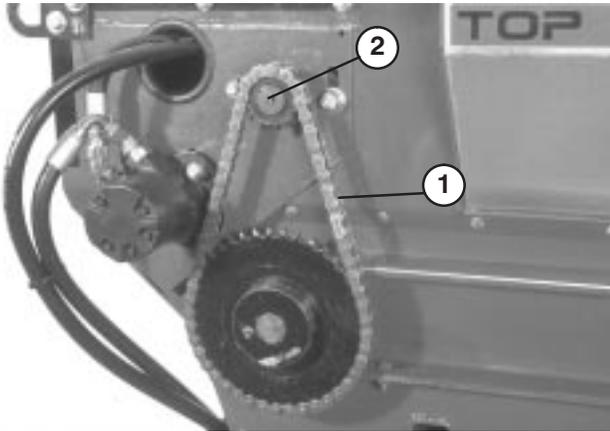

Figure 17
2. Loosen bolts and nuts securing motor and sprocket assembly to the main frame (Fig. 17).